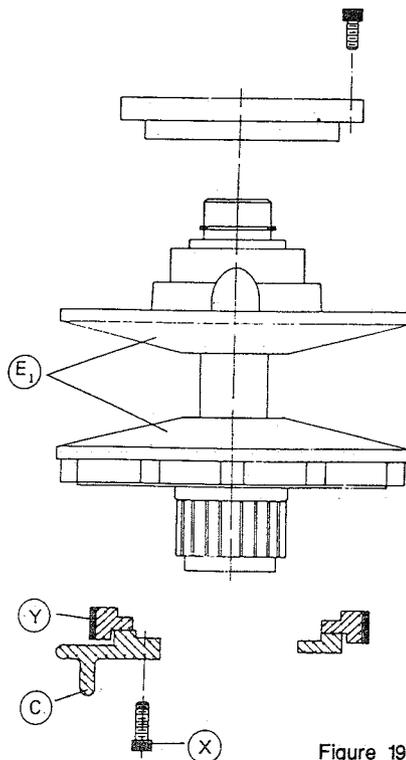

Figure 19
**(3) Replacement of Brake Block (Figure 19):**